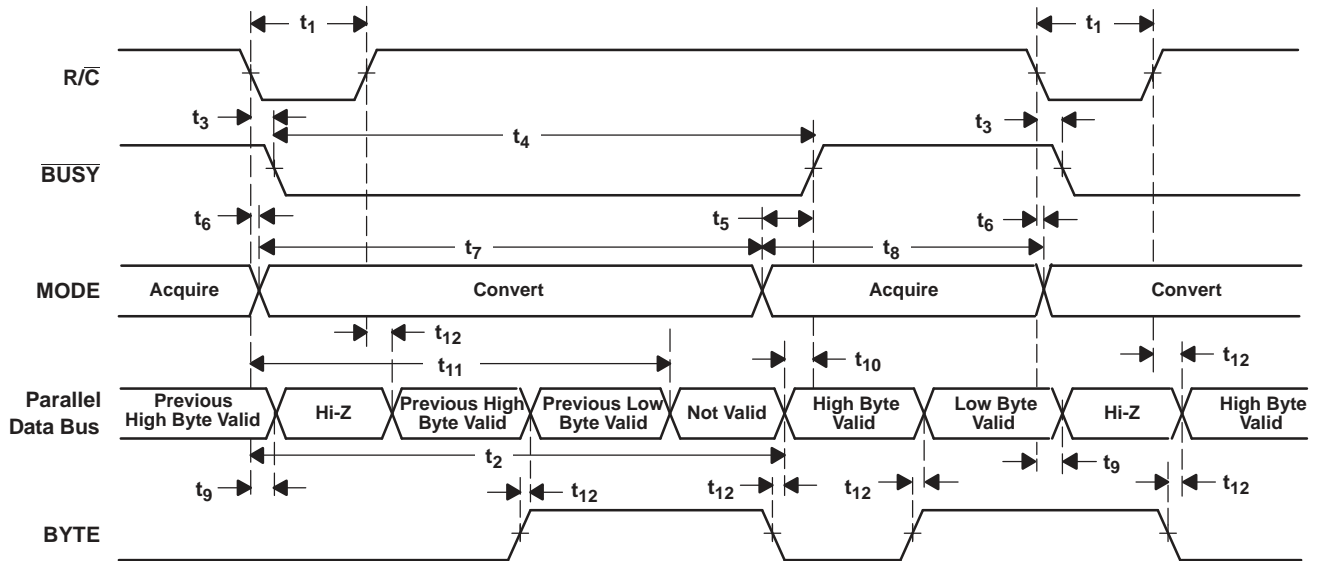
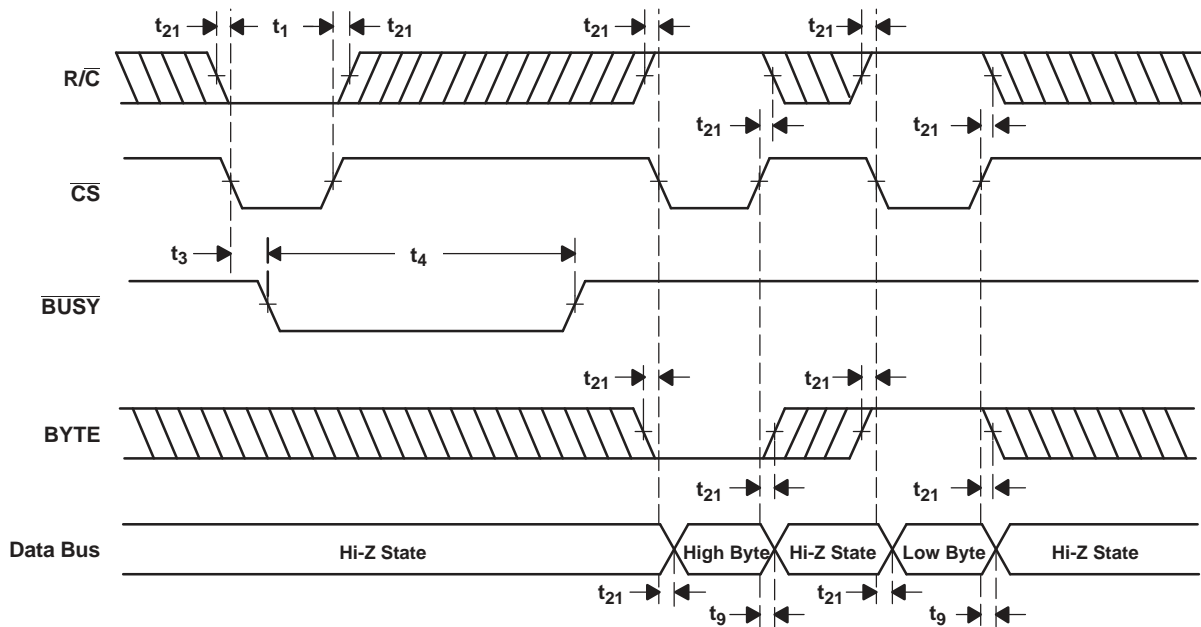

Figure 30. Conversion Timing With Parallel Output ($\overline{\text{CS}}$ and $\overline{\text{DATACLK}}$ Tied Low, EXT/INT Tied High)
Figure 31. $\overline{\text{CS}}$ to Control Conversion and Read Timing With Parallel Outputs
The ADS8517 begins tracking the input signal at the end of the conversion. Allowing 5 μ s between convert commands assures accurate acquisition of a new signal. Refer to Table 2 and Table 3 for a summary of \overline{CS} , R/\overline{C} , and \overline{BUSY} states, and Figure 30 through Figure 36 for timing diagrams.
(1) See Figure 30 and Figure 31 for constraints on data valid from conversion $N-1$.
After conversion *N* is completed and the output registers have been updated, $\overline{\text{BUSY}}$ (pin 24) goes high. Valid data from conversion *N* are available on D7-D0 (pin 9-13 and 15-17). $\overline{\text{BUSY}}$ going high can be used to latch the data. Refer to Table 5, Figure 30, and Figure 31 for timing specifications.
After conversion N has been initiated, valid data from conversion $N-1$ can be read and are valid up to $2.2\ \mu\text{s}$ after the start of conversion N . Do not attempt to read data beyond $2.2\ \mu\text{s}$ after the start of conversion N until $\overline{\text{BUSY}}$ (pin 24) goes high; doing so may result in reading invalid data. Refer to Table 5, Figure 30, and Figure 31 for timing constraints.